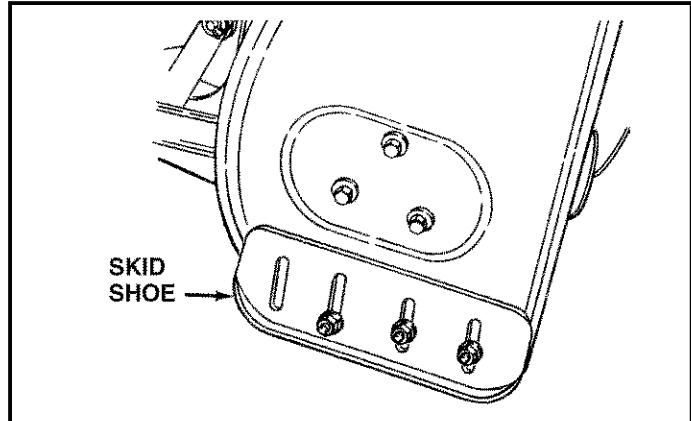

FIGURE 29
(Refer to figures 29 and 30 on page 17.)
- Raise the snow thrower off the ground and place a block under each end of the scraper plate. Loosen the six hex nuts securing the skid shoes to the housing. Adjust the skid shoes up or down and retighten the nuts securely. Adjust both skid shoes to the same height to keep the housing and the scraper plate level. See figure 29.